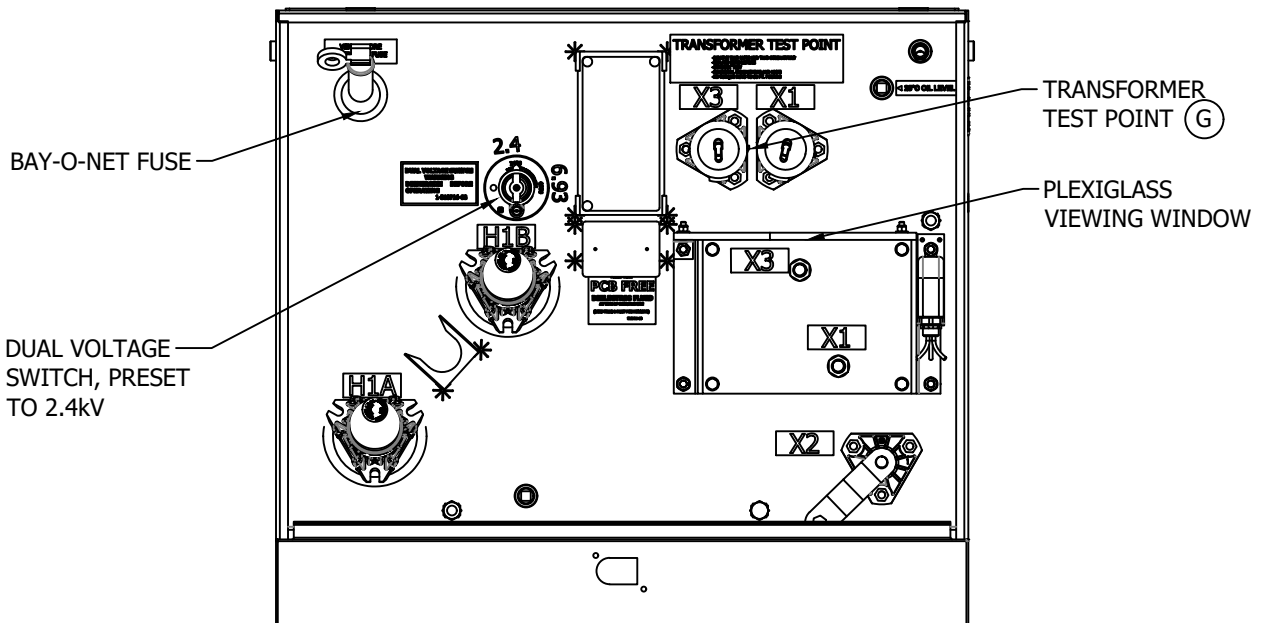

FIGURE 5
- F. PRIOR TO CONNECTING SECONDARIES, CHECK THAT TORQUE MARKS ON SENCONDARY BOLTS ARE ALIGNED THROUGH THE PLEXIGLAS VIEWING WINDOW. SEE FIGURE 5.
- Ⓒ TO PERFORM TRANSFORMER PRE-TEST, DISCONNECT AND ISOLATE X3/X1 CONDUCTORS SHOWN IN FIG. 5. PERFORM TEST, THEN RE-INSTALL X3/X1 CONDUCTORS, AND TORQUE TO 50 FT. LBS. DO NO OVER/UNDER TIGHTEN.